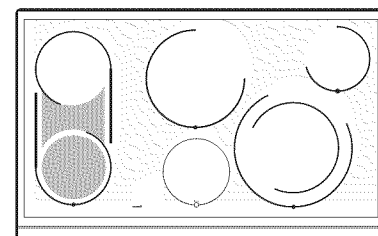
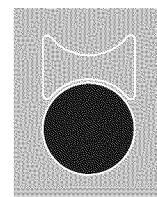
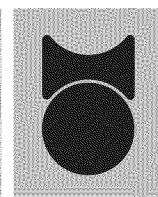

Figure 5
Figure 7
Figure 8
The cooktop is equipped with a "BRIDGE" surface element located at the left front and middle (See Figure 5) positions. The Bridge can be used when cooking with rectangular (like a griddle) or oval shaped cookware. The element will maintain an even temperature setting across both portions of the Bridge. If needed for normal cookware, the Bridge element can work like a single element without the Bridge (See Figure 7).
These words indicate the direction to turn the control knob when operating the Bridge element. "**Single**" indicates that only the single portion of the Bridge element will heat (Figure 7). "**Multi**" indicates that both the single and Bridge portions of the element will heat together (Figure 8). You may switch between these settings at any time during cooking with the Bridge element.
2. Push in and turn the control knob counterclockwise to heat the portion of the Bridge element for normal shaped cookware (See Figure 7) or clockwise for larger or rectangular shaped cookware (See Figure 8).